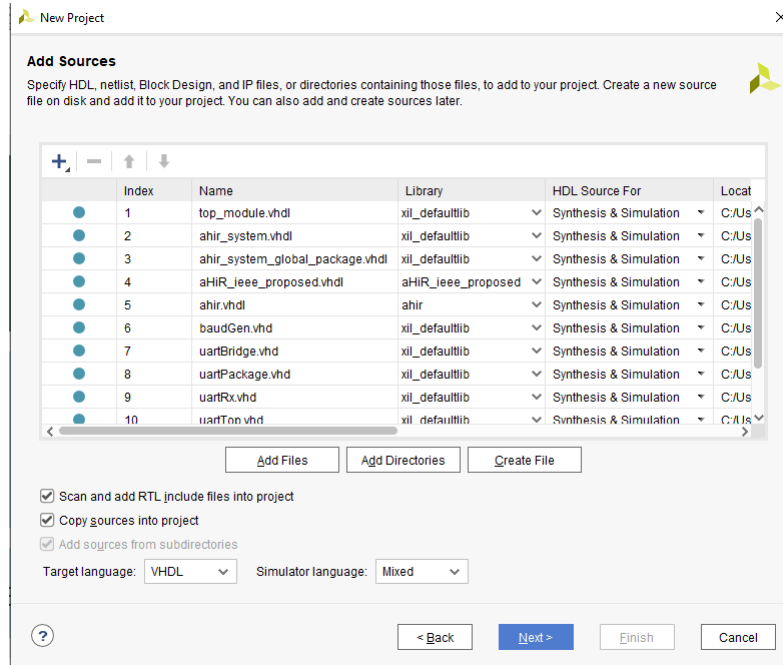

Figure 3: Add Files Vivado
4. The files *ahir.vhdl* & *aHiR_ieee_proposed.vhdl* are files taken from the AHIR release library and are necessary for code synthesis. You can find them from */release/vhdl* location. These files need to set to specific library in step 1.4, for that you will need to change the library section for this files. Refer to figure 3, and change the library as shown. The library for other files will remain the same.